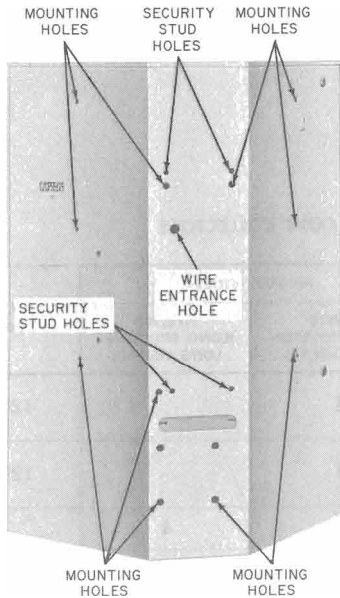

Fig. 12—Location of Mounting, Security Stud, and Wire Entrance Holes
3.05 Refer to Fig. 12 for mounting screw and security stud locations in the coin collector.
3.07 Feed inside wire through wire entrance hole (Fig. 12) and connect to terminals T, R, and GRD on TB1. Dress wire away from coin collector door.